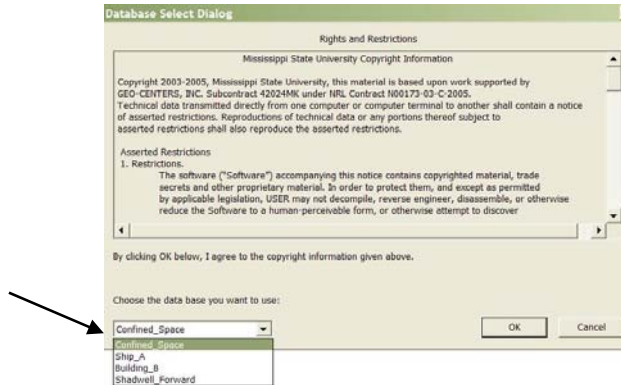

Figure 3.1 Database Selection
Step 1: The Database Selection dialog (shown in Figure 3.1 ) pops up. From the drop down menu, select the Confined Space database (Confined\_Space) and click OK